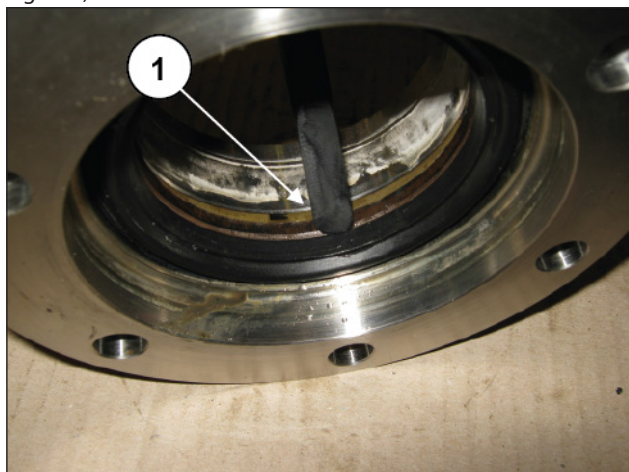
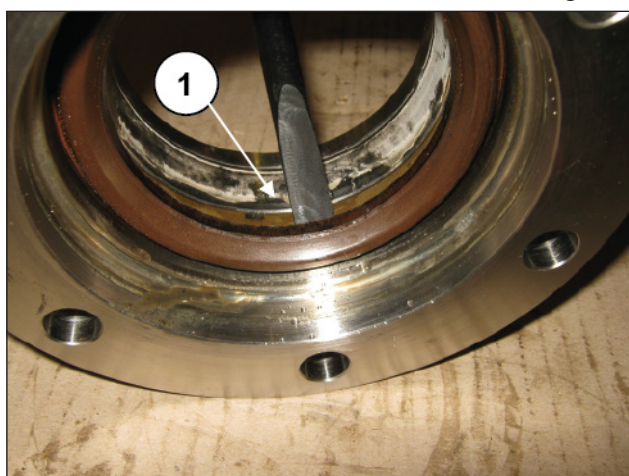
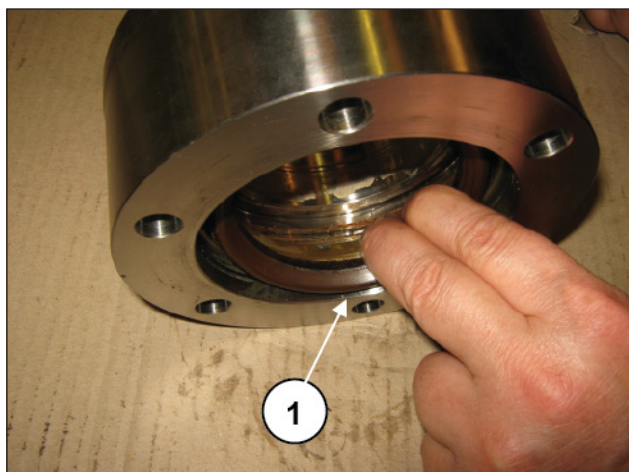
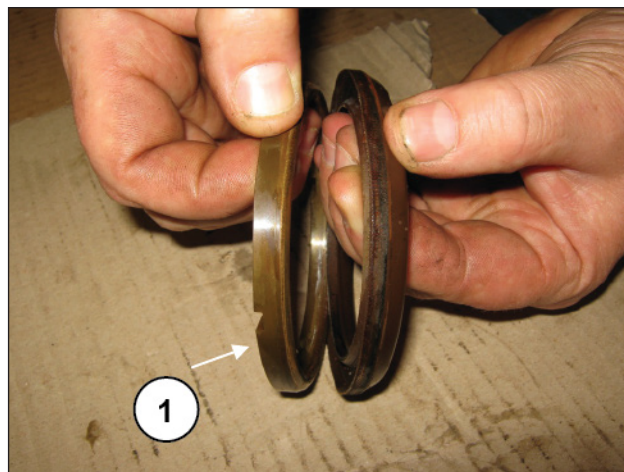

Fig. 216
Fig. 217
Fig. 218
Fig. 219
Extract the following from the sleeve in sequence: the restop ring (pos. ①, Fig. 216), the seal ring (pos. ①, Fig. 217 - Fig. 218) with the piston head ring, and separate them (pos. ①, Fig. 219).